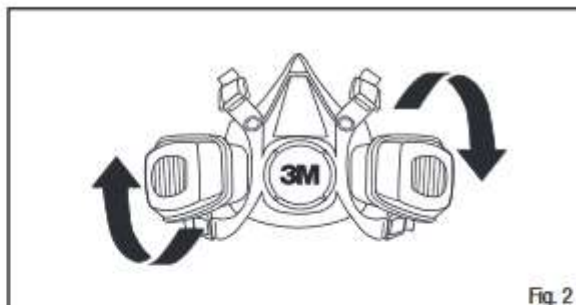

Fig. 2
2. Turn cartridge clockwise one quarter turn until it is firmly seated and cannot be further turned (Fig. 2).